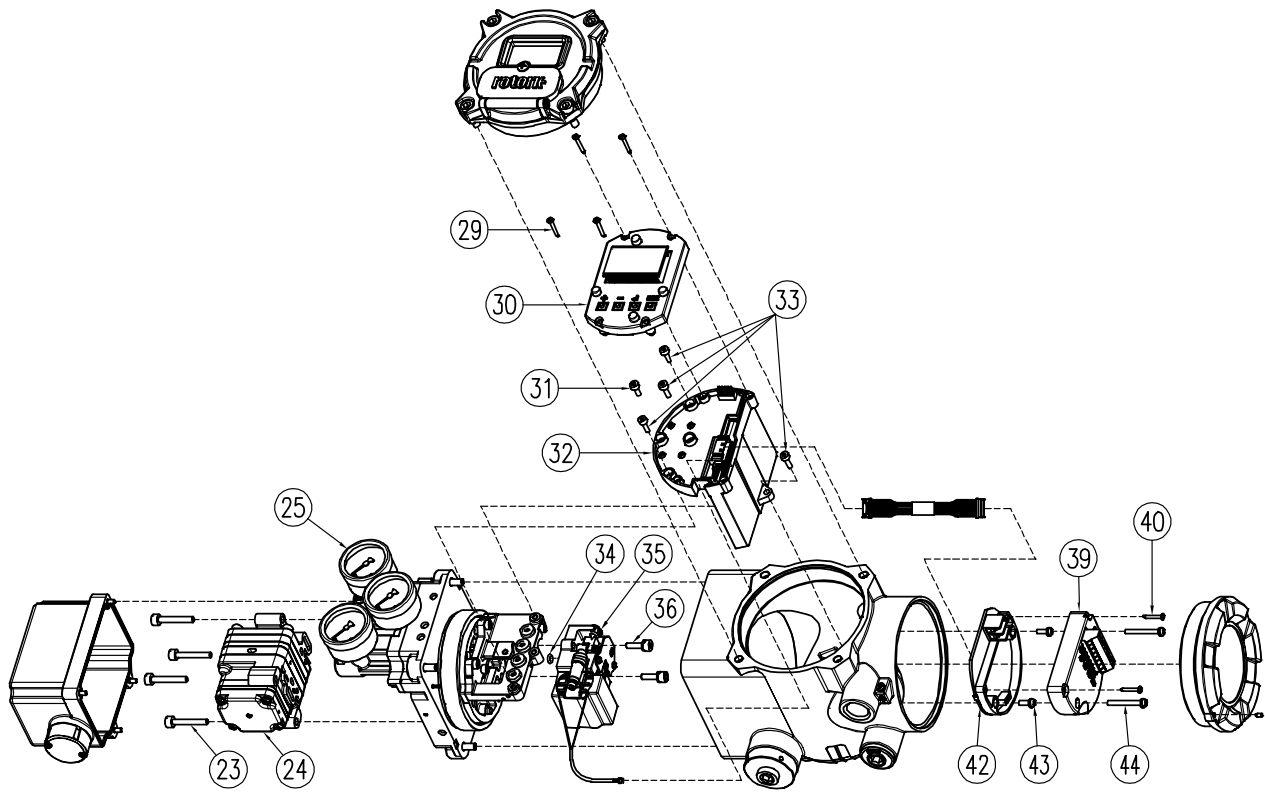

Fig. 6-3: Exploded View
For product maintenance, refer to the part numbers listed in Section 6.1 or 6.2, as well as the exploded view in Fig 6-3 when replacement parts are needed.
Before starting the replacement work, ensure that all supply pressure and electrical power are completely shut off. *Refer to Figure 6-3 for the locations of each component and submodule.*
Before starting the replacement work, ensure that all supply pressure and electrical power are completely shut off. *Refer to Figure 6-3 for the location numberings of each component and submodule.*
- 2) Remove the bolts (8) securing the ASSY-MAIN PCBA (9). The MAIN PCBA is fixed with a total of five bolts (8A, 8B, 8C), one of which (8C) is located deep inside the product. *Refer to Figure 6-3 to identify the exact location.*
- 3) Disconnect the Main connector (10) and the T/M connector (11) connected to the MAIN PCBA.
- 4) Carefully lift the ASSY-MAIN PCB (9) upward to remove it.
Before starting the replacement work, ensure that all supply pressure and electrical power are completely shut off. Refer to Figure 6-3 for the location numberings of each component and submodule.